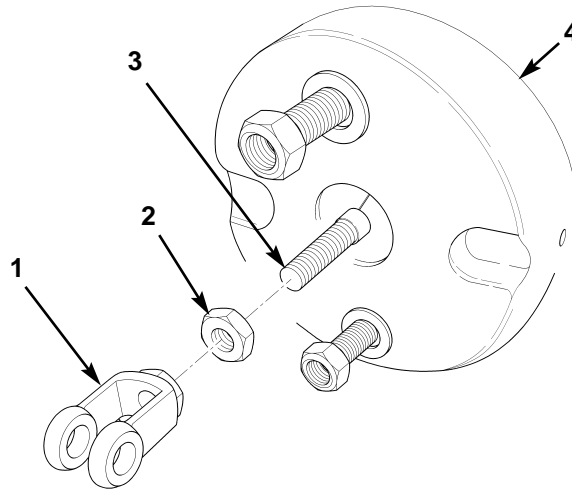

Figure 3. Removing Clevis and Jamnut.
5. Remove clevis (figure 3, item 1) and jamnut (figure 3, item 2) from pushrod (figure 3, item 3) on spring brake chamber (figure 3, item 4).